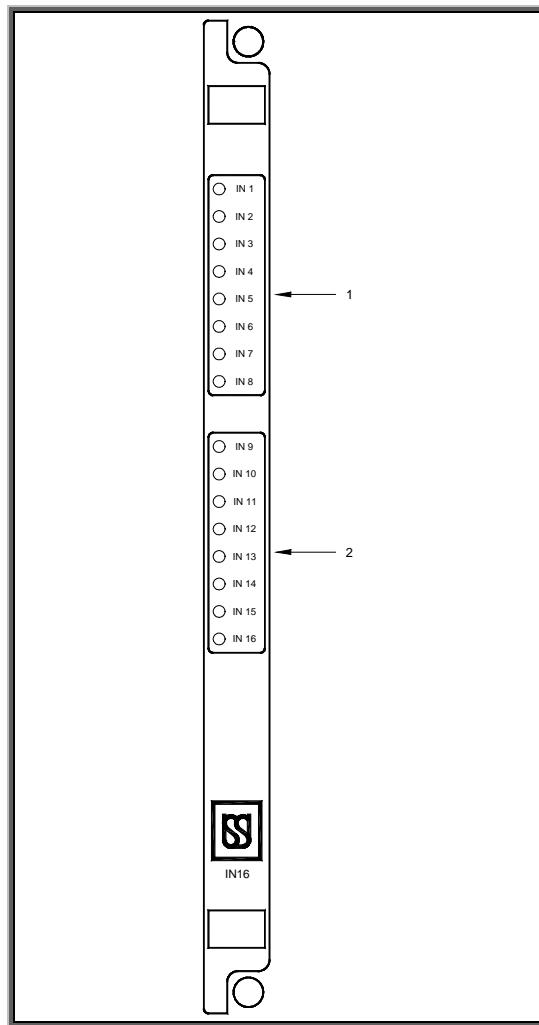

Figure- 2.3
2.3 VITAL INPUT PRINTED CIRCUIT BOARD (Refer Figure-2.3)